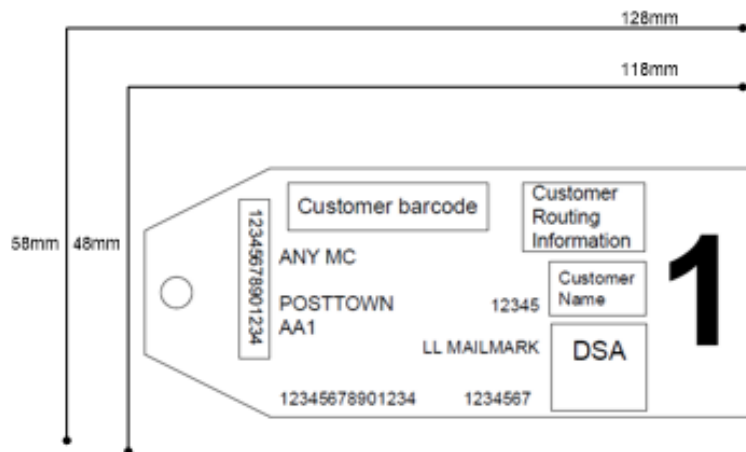

Figure 17: Label clear zones
- A 5mm clear zone must be provided around the 'label area'. Consequently, an area of 128mm by 58mm is required for the label and its clear zone as illustrated in Figure 17 below: